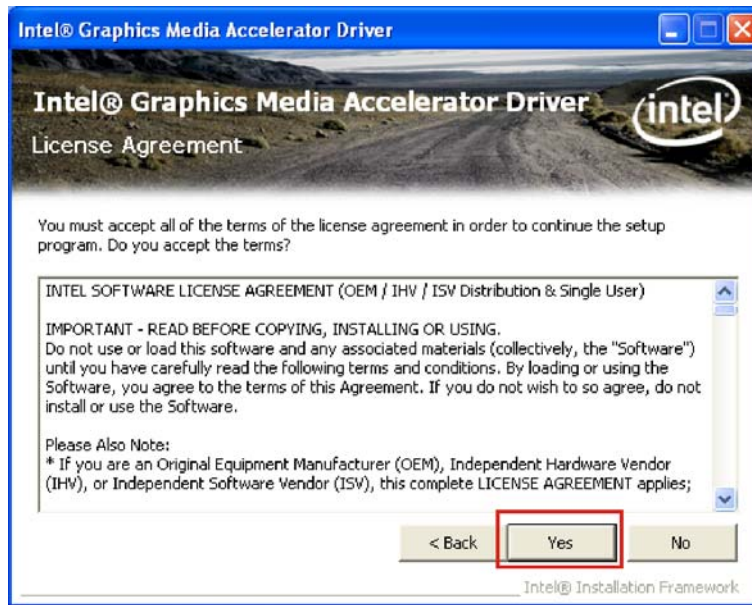

Figure 6-12: VGA Driver License Agreement
Step 8: The license agreement in **Figure 6-12** appears.